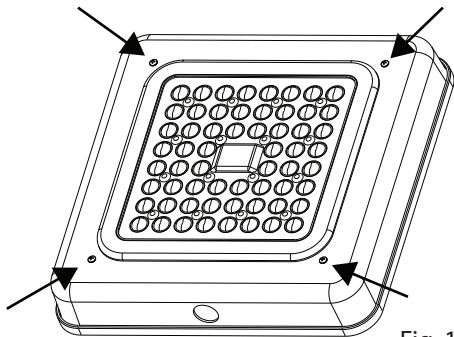

Fig. 1
1. Remove the (4) corner screws to detach the cover from the backplate and then unplug the electrical connectors. (Fig. 1)